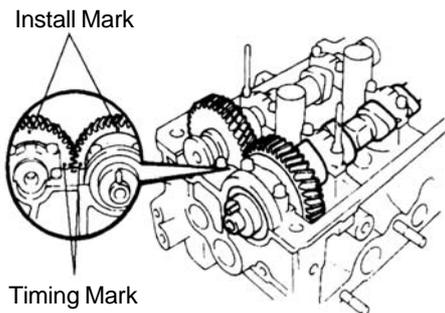

Figure 63
(4) Check the timing marks on the camshaft gear for alignment. See (Figure 63).